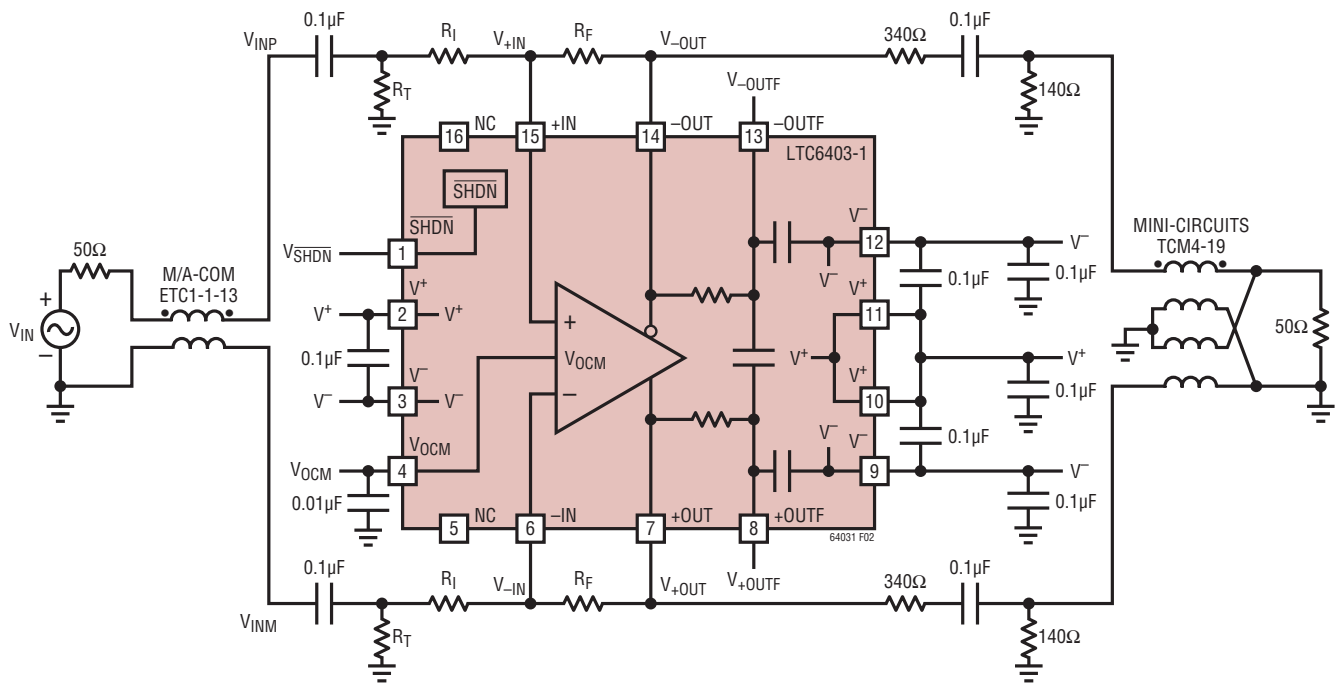

Figure 2. AC Test Circuit (-3dB BW Testing)
The ● denotes the specifications which apply over the full operating temperature range, otherwise specifications are at  $T_A = 25^\circ\text{C}$ ,  $V^+ = 3\text{V}$ ,  $V^- = 0\text{V}$ ,  $V_{\text{CM}} = V_{\text{OCM}} = V_{\text{ICM}} = \text{Mid-Supply}$ ,  $V_{\text{SHDN}} = \text{OPEN}$ ,  $R_I = 402\Omega$ ,  $R_F = 402\Omega$ ,  $R_T = 25.5\Omega$ , unless otherwise noted (See Figure 2).  $V_S$  is defined as  $(V^+ - V^-)$ .  $V_{\text{OUTCM}}$  is defined as  $(V_{+\text{OUT}} + V_{-\text{OUT}})/2$ .  $V_{\text{ICM}}$  is defined as  $(V_{+\text{IN}} + V_{-\text{IN}})/2$ .  $V_{\text{OUTDIFF}}$  is defined as  $(V_{+\text{OUT}} - V_{-\text{OUT}})$ .  $V_{\text{INDIFF}}$  is defined as  $(V_{\text{INP}} - V_{\text{INM}})$ .
**LTC6403-1 AC ELECTRICAL CHARACTERISTICS** The denotes the specifications which apply over the full operating temperature range, otherwise specifications are at  $T_A = 25^\circ\text{C}$ ,  $V^+ = 3\text{V}$ ,  $V^- = 0\text{V}$ ,  $V_{\text{CM}} = V_{\text{OCM}} = V_{\text{ICM}} = \text{Mid-Supply}$ ,  $V_{\text{SHDN}} = \text{OPEN}$ ,  $R_I = 402\Omega$ ,  $R_F = 402\Omega$ ,  $R_T = 25.5\Omega$ , unless otherwise noted (See Figure 2).  $V_S$  is defined ( $V^+ - V^-$ ).  $V_{\text{OUTCM}}$  is defined as  $(V_{+\text{OUT}} + V_{-\text{OUT}})/2$ .  $V_{\text{ICM}}$  is defined as  $(V_{+\text{IN}} + V_{-\text{IN}})/2$ .  $V_{\text{OUTDIFF}}$  is defined as  $(V_{+\text{OUT}} - V_{-\text{OUT}})$ .  $V_{\text{INDIFF}}$  is defined as  $(V_{\text{INP}} - V_{\text{INM}})$ .